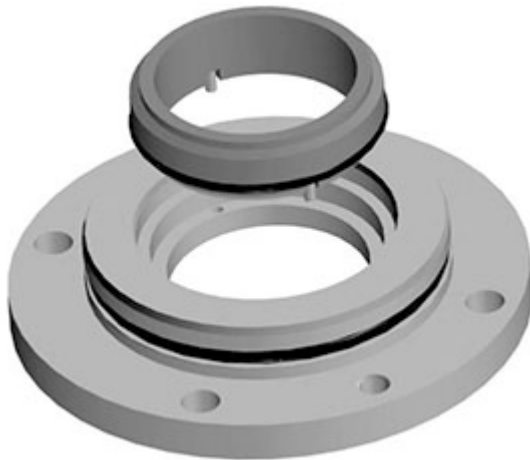

Figure 38: Mechanical seal seat and seal end cover (seal gland) assembly
10. Press the stationary mechanical seal seats, with anti-rotational pins inserted and O-ring attached, into both of the seal end covers. Lightly lubricate the Seal end cover to ease assembly. (see Figure 38)